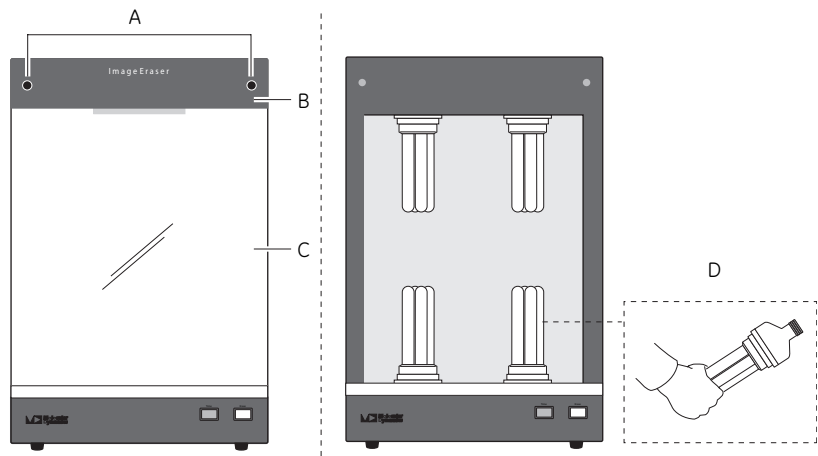

Figure 5-3. Replace bulbs in the Image eraser.
- 2 Unscrew the two thumbscrews (*Fig 5-3 A*) that hold the clip support (*Fig 5-3 B*) and diffuser screen (*Fig 5-3 C*) in position.
- 4 Unscrew the bulb and fixture from each receptacle (*Fig 5-3 D*).